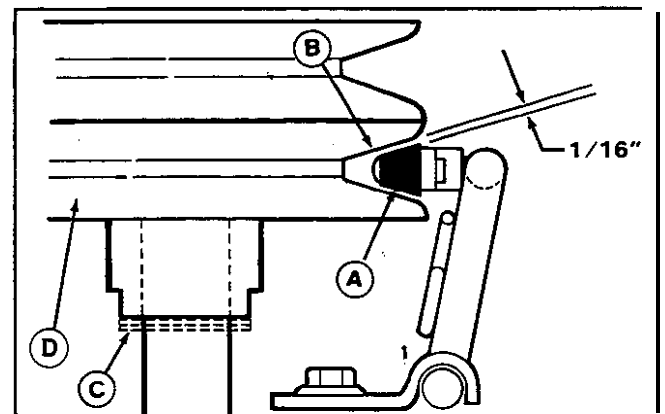

Figure 5.
7. Install new double-groove arbor pulley (D, figure 5) with hub down. Use new 7/16-14 x 2-1/4 capscREW and washers removed in step 2. Torque to 55 to 70 ft. lbs. Use wood block to prevent blade from turning. It may be necessary to add washer(s) (C, figure 5, two provided) underneath the new pulley to properly align brake pad and bottom groove. Refer to figure 5. Add washers to adjust top-to-bottom alignment: 1/16" clearance must be adjusted after belt is installed and PTO is engaged.
- b. Inspect the brake pad (A, figure 5) to V-pulley (B) clearance. With PTO engaged, clearance should be 1/16 inch as shown in figure 5.